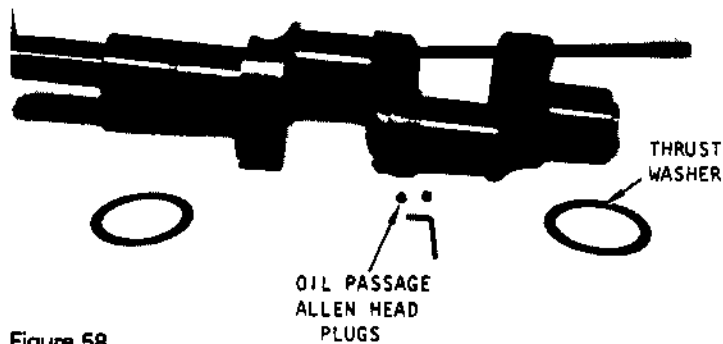

Figure 58
- Remove the thrust bearing on the motor end bearing. Figure 58 illustrates the crankshaft and thrust bearings.
- b. Using a feeler gauge, measure the clearance between the shaft and the thrust bearing at the oil pump end of the shaft (Figure 58).